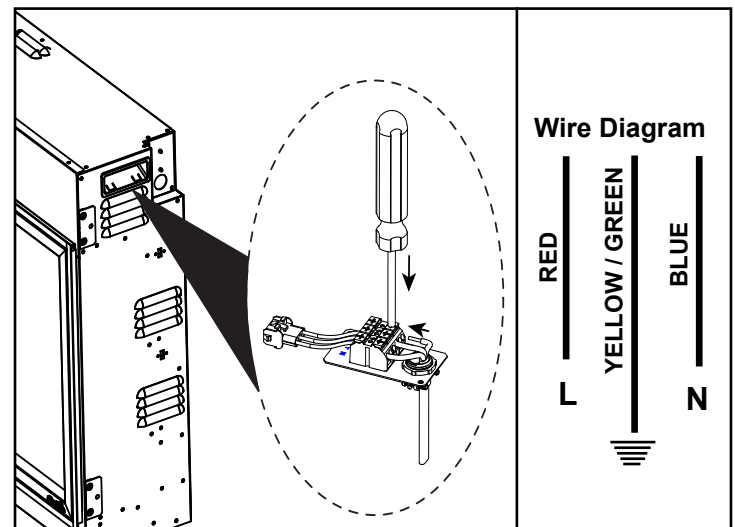

Figure 4.4 Electrical Connection / Installation
3. Terminate type NM-B wire to the terminal block, ensure connections are secure, and tighten the strain relief. To load wire conductors into the junction block, depress the spring-loaded terminals on the junction block by hand or use a screwdriver. See Figure 4.4.